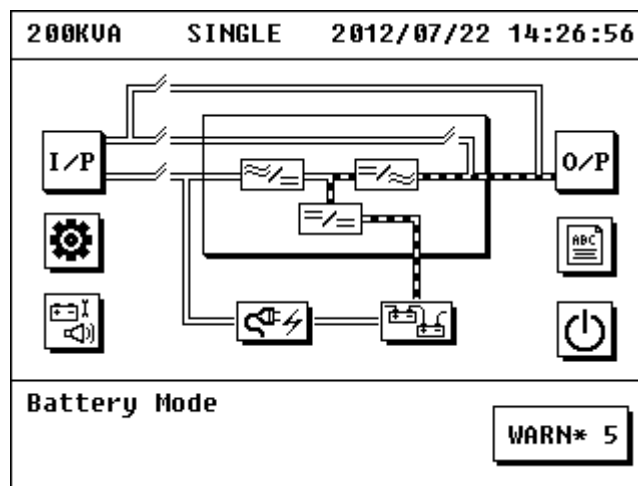

Figure 3.9 Battery Mode
5. Close output breaker, and then the UPS output is normal and starting by battery is finished. Its energy flow is shown in figure 3.9: